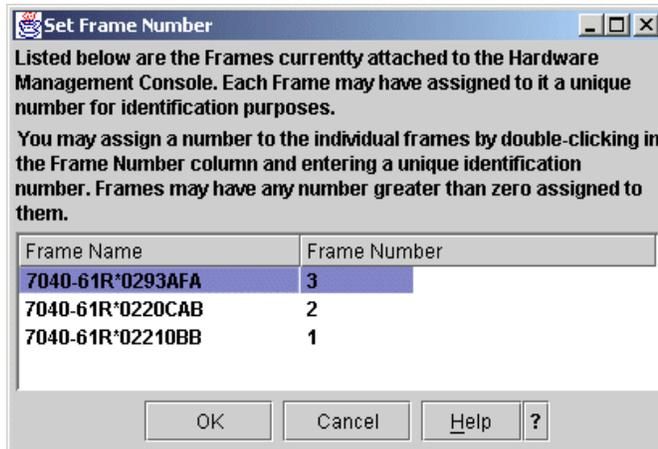

Figure 12 Setting the frame number
4. Set the frame number for the frame (see Figure 12 on page 23).